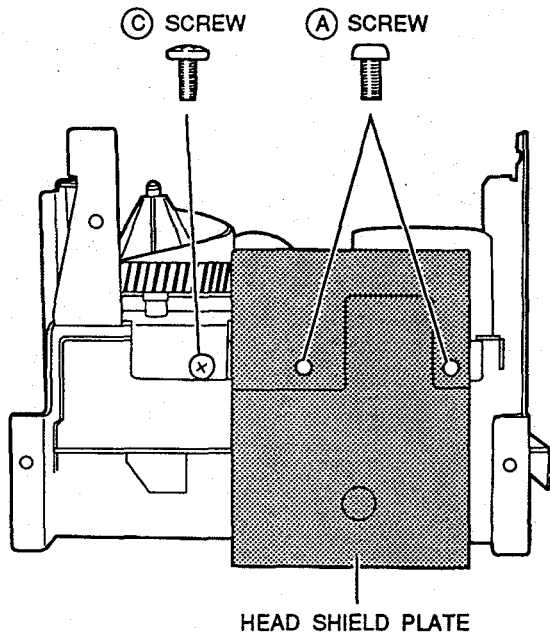

Fig. 3-1
- 3) Remove the (C) and (D) screws and remove the SIDE PLATE (R) (refer to Fig.3-1 and 3-2).
- 4) Remove the two (E) screws and then remove the SIDE PLATE (L).
- 1) Remove the two ④ screws and remove the HEAD SHIELD PLATE as shown in Fig. 3-1.